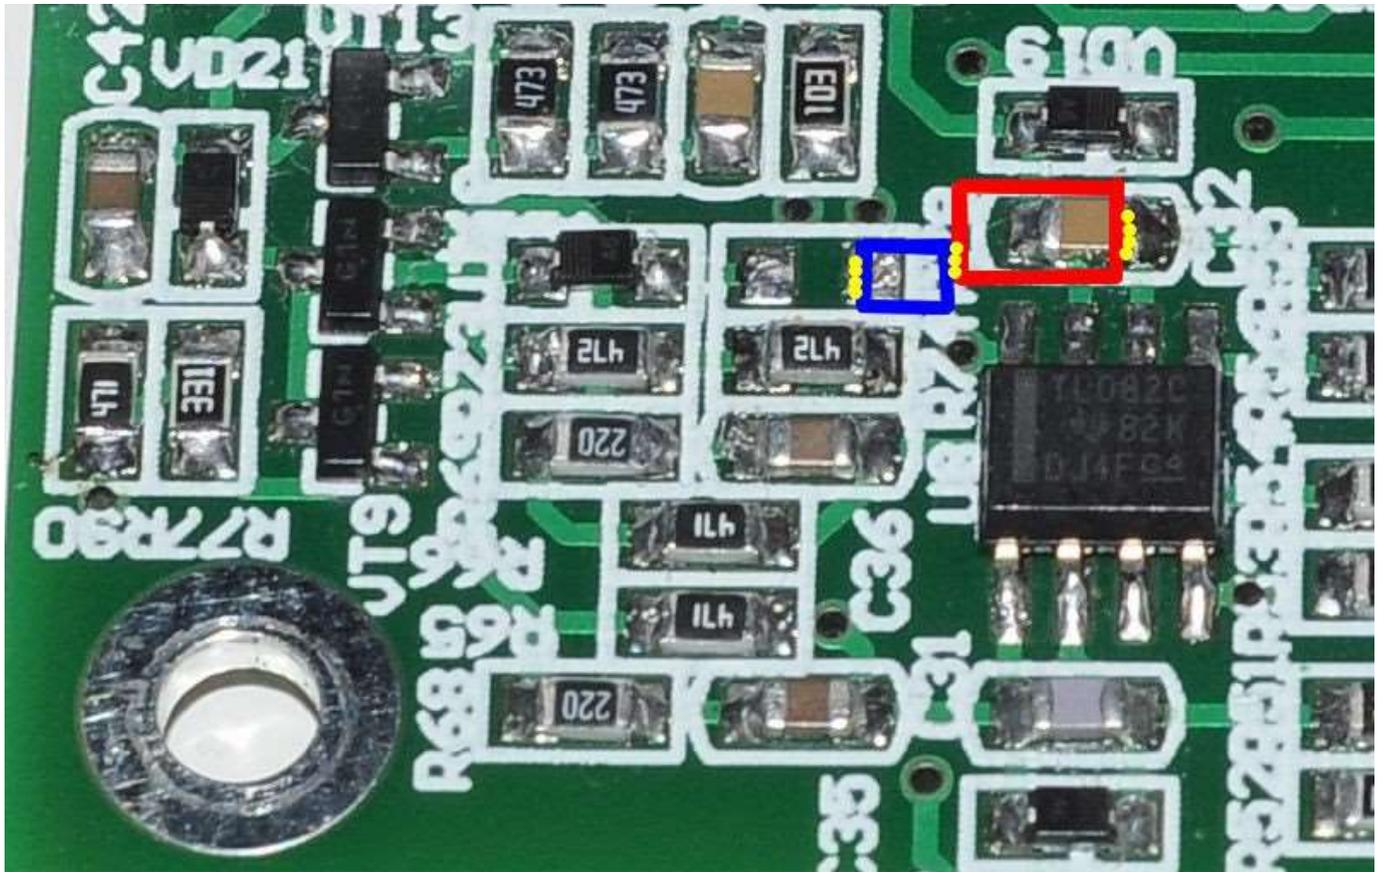

Fig. 6.
11. When there is a transition between the two levels of current stabilization, a surge is observed. To eliminate it, you need to add a chain of R98 10 k $\Omega$  and C51 1 nF. First, an R98 resistor of size 1206 (shown in red in Fig. 6) is mounted on the board above the C32, C51 of size 0805 is soldered to it (shown in blue in Fig. 6), which is soldered to the R78 pad with the second pin.